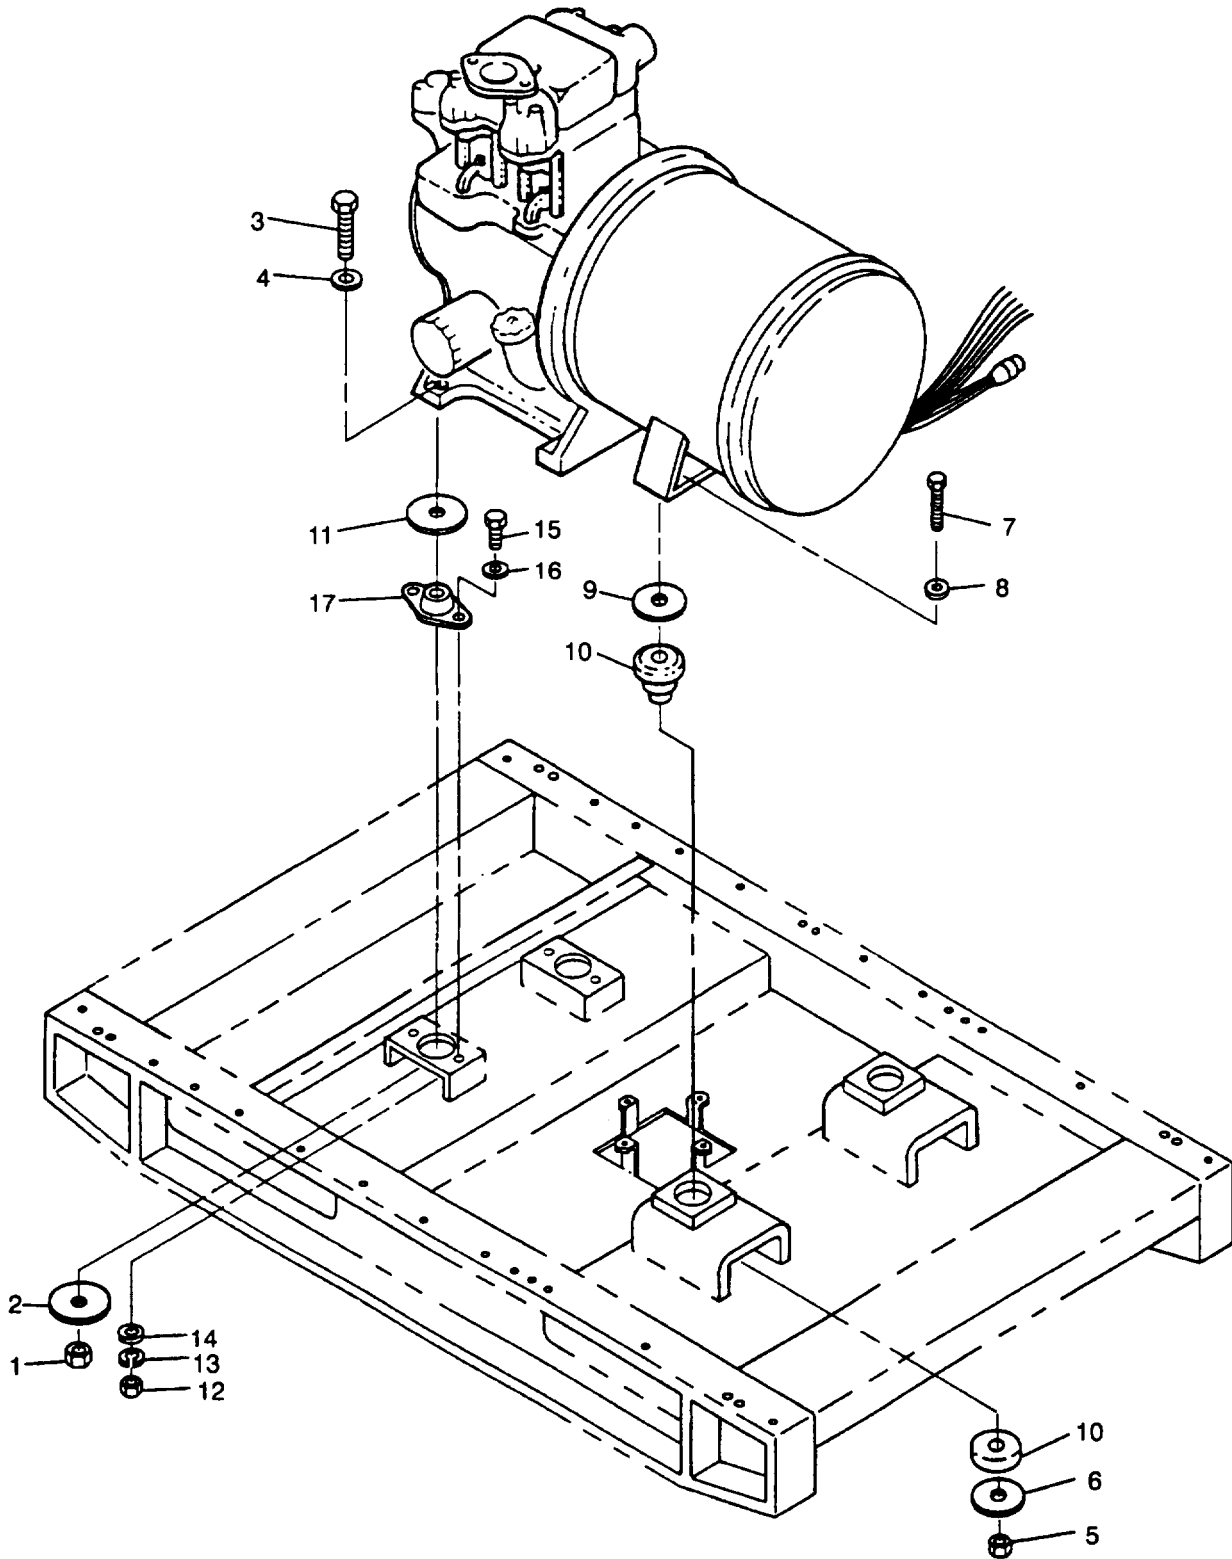

Figure 3-1. Engine and Generator Assembly Removal
- y. Remove nuts (1, Figure 3-1), washers (2) and (4), and mounting bolts (3) from engine mounting points.
- z. Remove nuts (5), washers (6) and (8) and mounting bolts (7) from generator mounting points.
- ac. Loosen nuts (1) at engine mounting points.
- ag. Remove generator snubbing washers (9, Figure 3-1) and shock mounts (10).
- ah. Remove snubbing washers (11), nuts (12), lockwashers (13), washers (14) and (16), bolts (15), and engine shock mounts (17).
- a. Install engine shock mounts (17, Figure 3-1) with snubbing washers (11), nuts (12), lockwashers (13), washers (14) and (16), and bolts (15).
- b. Install generator shock mounts (10) and snubbing washers (9).
- f. Install nuts (1, Figure 3-1), washers (2) and (4), and mounting bolts (3) at engine mounts. Torque nuts (1) to 31 ft-lbs (42 Nm). Proceed to step i.
- h. Tighten nuts (1, Figure 3-1) at engine mounting points to 31 ft-lbs (42 Nm).
- i. Install nuts (5), washers (6) and (8), and mounting bolts (7) at generator mounting points. Torque nuts (5) to 45 ft-lbs (61 Nm).